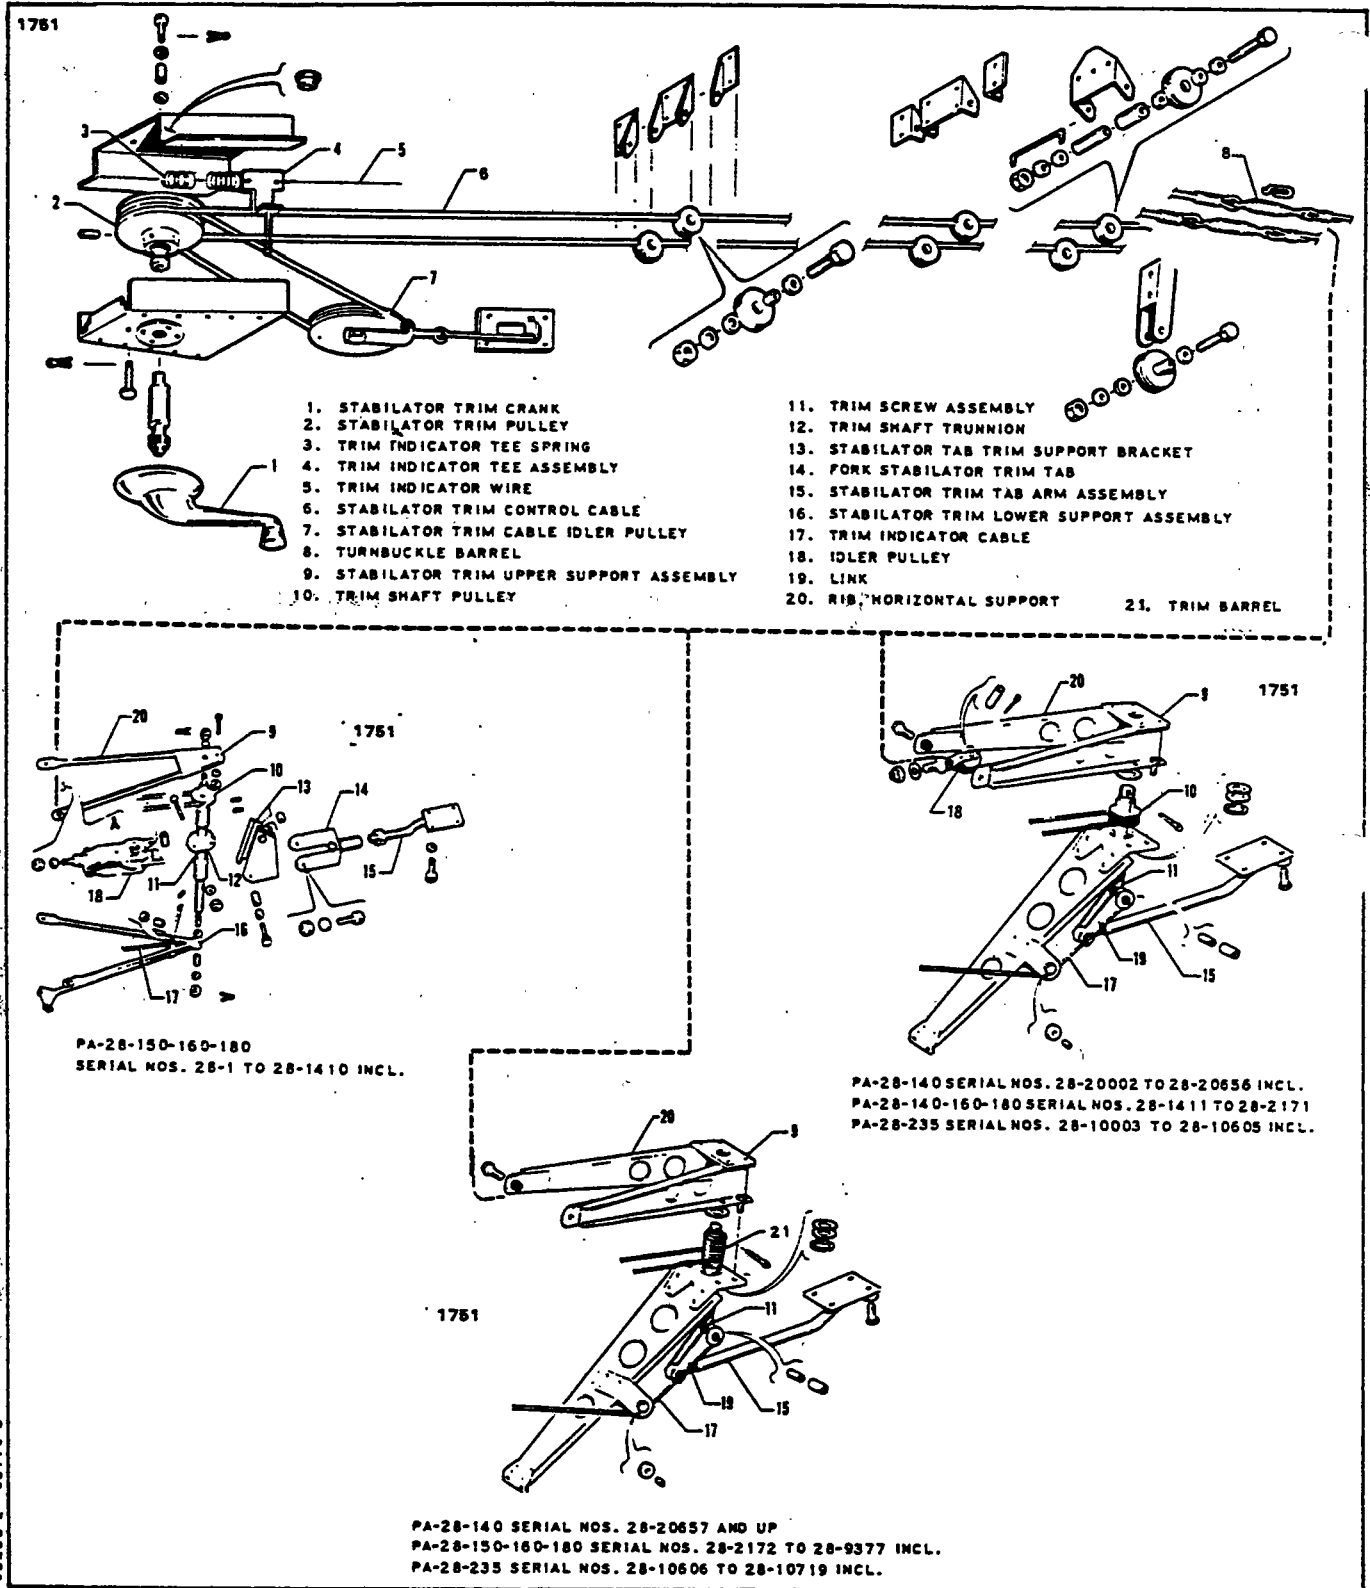

Figure 5-9. Stabilator Trim Control (Overhead Control)
5-19. REMOVAL OF STABILATOR TRIM ASSEMBLY. (FORWARD.) (Refer to Figure 5-9.)
(Refer to Figure 5-9.)
5-22. INSTALLATION OF STABILATOR TRIM CONTROLS. (AFT.) (Refer to Figure 5-9.)
- (b) With the forward portion installed, route the long length (the long length should be the left end of the cable) aft, counterclockwise around to the top groove of the trim pulley (10), around the idler pulley (18), back around the bottom groove of the trim pulley and forward to the inside of the fuselage.
3. The trim indicator cable may be installed by attaching one end to the trim screw trunnion. (Refer to Figure 5-9 for correct location.) Loop the cable around the pulley below the trim screw. Install the cotter pin cable guard at the pulley. Attach other end of the cable to the indicator wire, and at the same time make adjustments given in paragraph 5-23.
11. The trim indicator cable may be installed by attaching one end to the lower end of the trim screw (Refer to Figure 5-9 for correct location.) and looping the cable around the pulley below the trim screw. Install the cotter pin cable guard at the pulley. Attach other end of the cable to the indicator wire, and at the same time make adjustments given in paragraph 5-23.